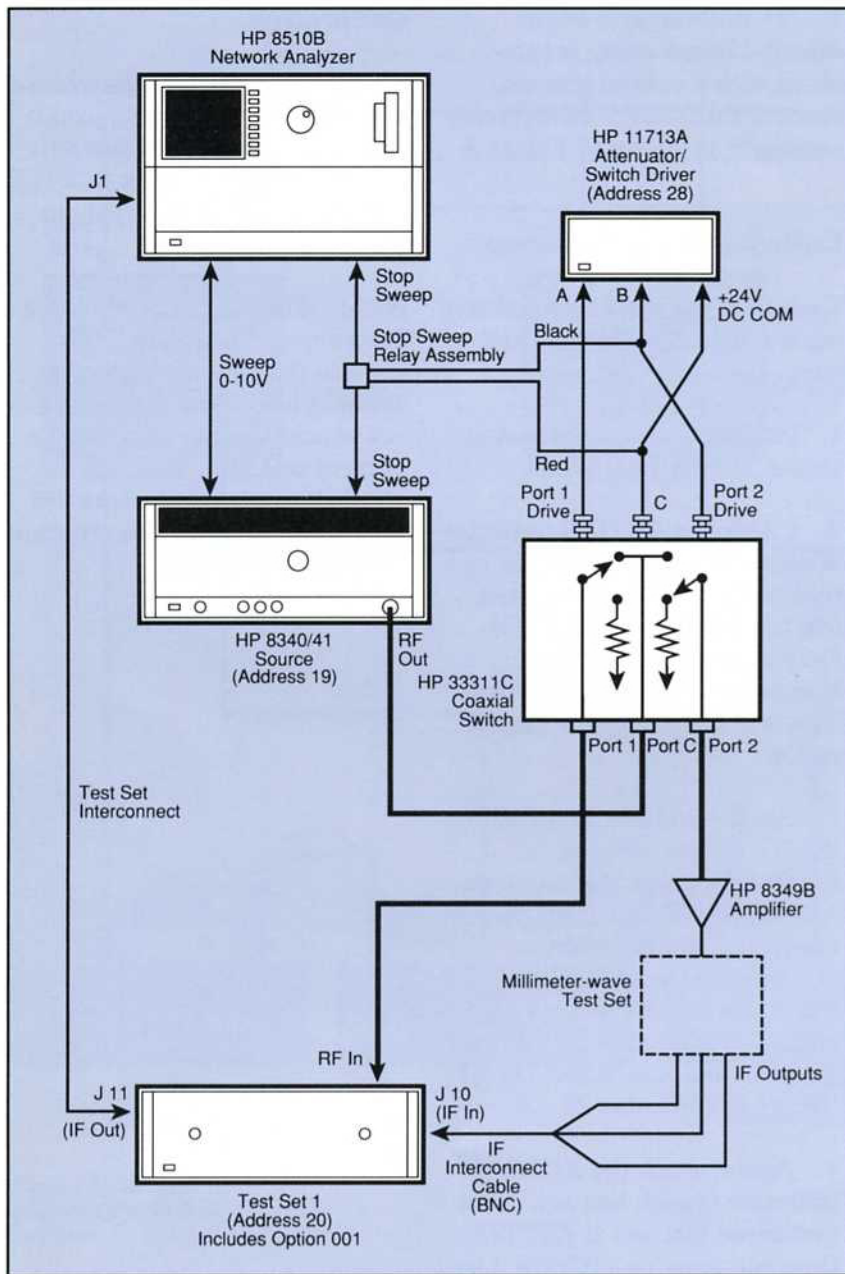

Figure 3. Dual test set configuration with millimeter-wave test set (simplified).
1. Only one millimeter or external mixer test set can be used in each system, and it must be the last test set in the chain. No IF switching option is available with these systems. Figure 3 shows a two test set system with a millimeter test set. The external mixer setup is similar.
3. The RF signal is routed to the RF input of the millimeter or external mixer test set. For the millimeter-wave setup, the RF is switched into an HP 8349B amplifier and then into the millimeter-wave multiplier, as shown in Figure 3.
4. The STOP SWEEP line must be disconnected for proper operation of a millimeter or external mixer test set. When using the coaxial test set (test set #1), the STOP SWEEP line must be connected from the source to the HP 8510. This line must be disconnected when a millimeter or external mixer test set is active. The STOP SWEEP relay shown in Figure 3 allows this to be controlled automatically by the HP 8510B, without reconnections.
4. If a millimeter-wave or external mixer setup is combined with a coaxial test set, connect the STOP SWEEP relay assembly as shown in Figure 3.